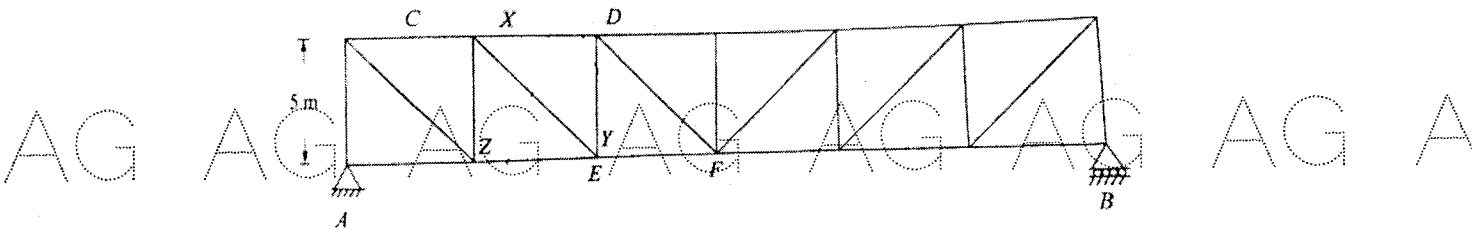

Figure: 9
11. An N Girder of span 18 m has to be designed for the member forces X, Y and Z. Draw the influence line diagram for the member forces shown in figure 9. [10]